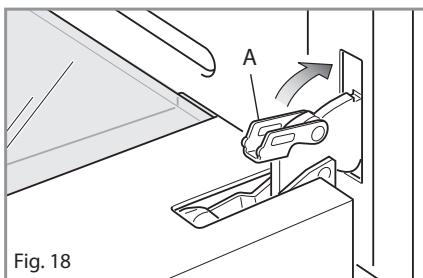

Fig. 18
- Unlock the oven door by opening it completely and closing the lever **A** on the left and right hinges (Fig. 18).